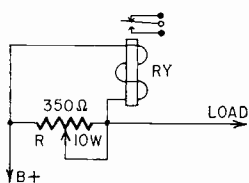

Fig. 1—Adjustable resistor gives correct voltage across coil.
The applications in Figs. 1 and 2 will work well in most circuits having between 250 and 400 volts dc and drawing 50 ma or more.
The 350-ohm 10-watt adjustable resistor (R) connected across the relay coil in Fig. 1 is used when the equipment would draw too much current through the coil. The resistor is adjusted to give a voltage drop of 24-28 volts across the relay. Measure with a dc voltmeter. Connect the positive test prod of the meter to the B-plus side and the